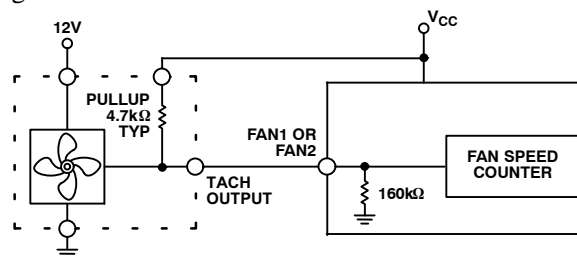
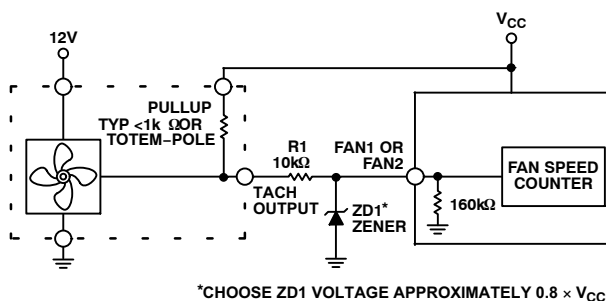
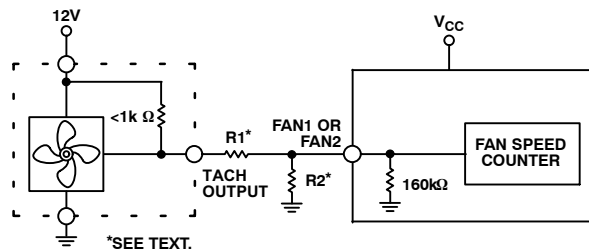

Figure 25. Fan with Tach Pullup to + V_{CC}
Figure 27. Fan with Strong Tach Pullup to >V_{CC} or Totem Pole Output, Clamped with Zener and Resistor
Figure 28. Fan with Strong Tach Pullup to >V_{CC} or Totem Pole Output, Attenuated with R1/R2
1. All of these circuits will provide an output range from 0 V to almost 12 V, apart from Figure 25 which loses the base-emitter voltage drop of Q1 due to the emitter-follower configuration.
Figure 25 to Figure 28 show circuits for most common fan tachometer outputs.
If the fan tachometer output has a resistive pullup to V_{CC} , it can be directly connected to the fan input, as shown in Figure 25.
If the fan has a strong pullup (less than 1 k Ω) to 12 V, or a totem-pole output, then a series resistor can be added to limit the Zener current, as shown in Figure 27. Alternatively, a resistive attenuator may be used, as shown in Figure 28.